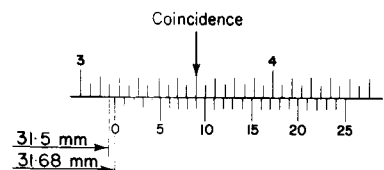

Fig. 4.7 The reading of the vernier is 31.68 mm
To read the metric vernier shown in Fig. 4.7, the first thing to notice is that 25 vernier divisions are equal in length to 24 main scale divisions, each main scale division being 0.50 mm. Thus the instrument can be read to an accuracy of 0.02 mm.
- (1) Read off the number of millimetres up to the zero line on the vernier. This is 31.5 mm.
- (2) Find the mark on the vernier scale which coincides with a mark on the main scale (this is in Fig. 4.7). Thus, the vernier scale has moved  $9 \times 0.02 = 0.18$  mm beyond the 31.5 mm mark.